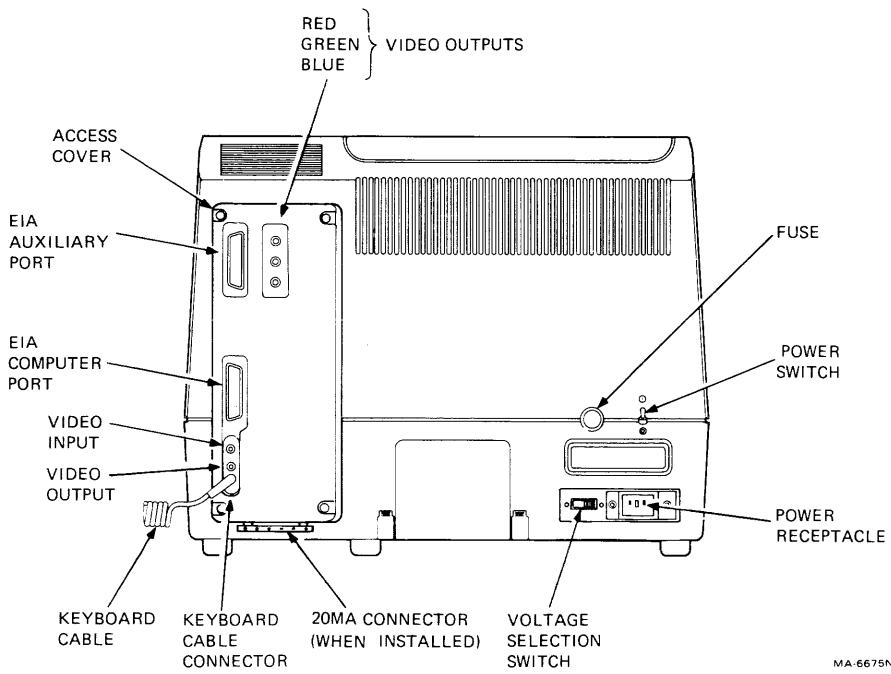

Figure 8-2 Monitor Controls and Connector Location
The VT125 terminal can be installed using a 3 mm (1/8 in) blade screwdriver. However, more tools may be needed when installing accessories and options. Use the following general procedure to install the VT125 terminal (refer to Figure 8-2 for the switch and cable locations).
11. Connect an optional external video monitor. If the monitor is color, use three video cables to connect the red, green, and blue outputs from the VT125 to the inputs on the monitor (Figure 8-2). Connect the composite video output from the VT125 to the sync input on the monitor, and set the monitor to select external synchronization.
1. Turn the power switch to the ON position (refer to Figure 8-2 for the switch location). The terminal automatically runs the power-up self-test. The test gives the following indications.